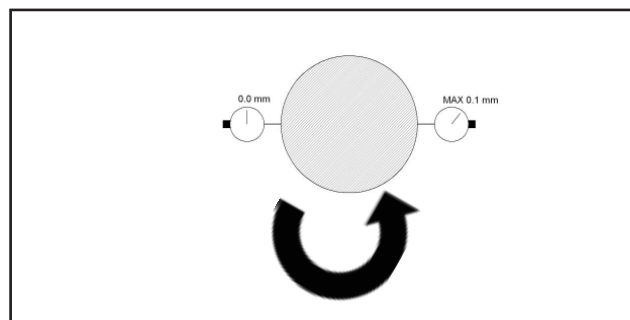

Figure 5c
3. Check the horizontal alignment: set the dial indicator on one side of the coupling, rotate the motor shaft of 180 degrees and read the misalignment, MAX 0.1 mm (see **Figure 5c**).